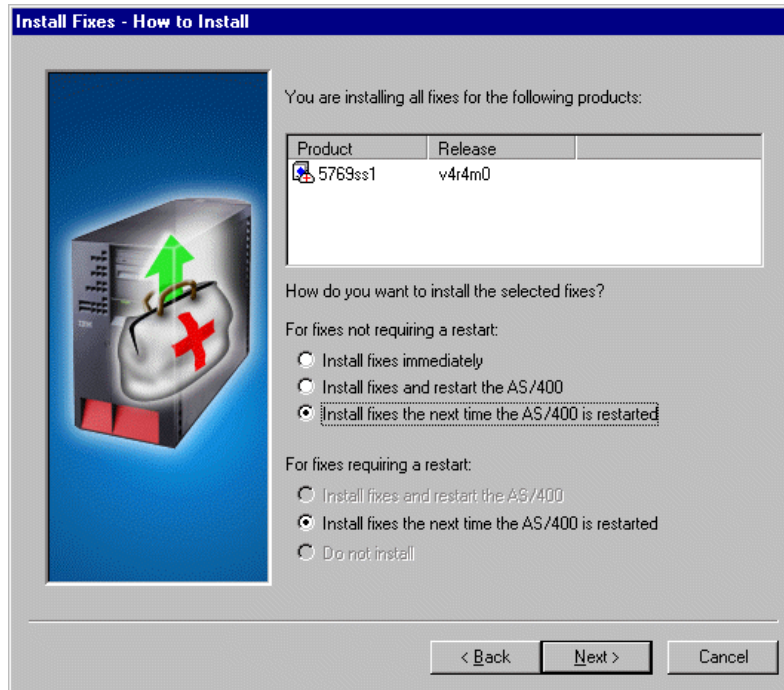

Figure 82. Install Fixes: How to Install window
5. Click the down arrow symbol in the Fix field to select all fixes, and type in the product number, such 5769SS1 for the Product. Click **Add** to add the fixes to be installed. Click **Next** to view the Install Fixes – How to Install window, which is displayed in Figure 82 on page 106.